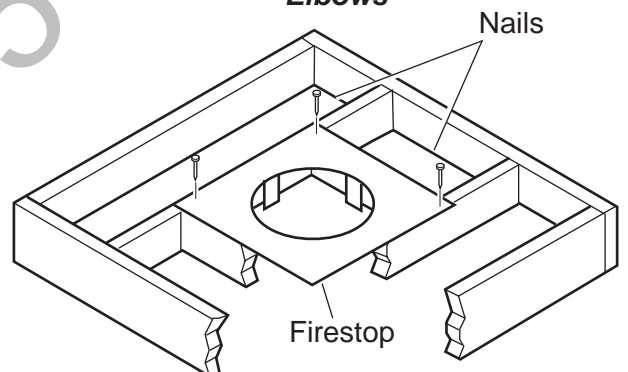
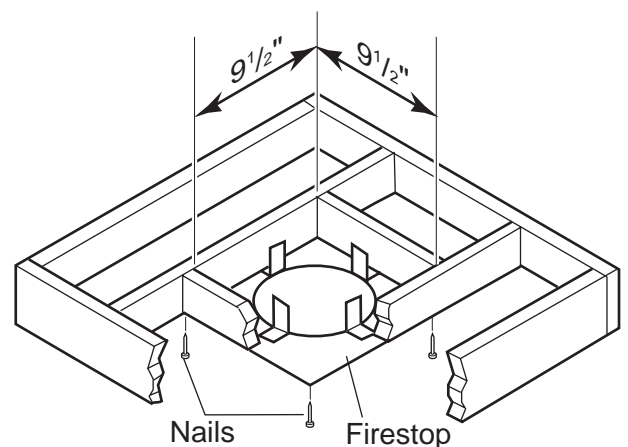

Figure 23 - If area above is a room, install firestop above framed hole as shown
Figure 24 - If area above is not a room, install firestop below framed hole as shown
1. Cut a $9\frac{1}{2}$ " (241mm) square hole in the ceiling using the locating hole as a center point. The opening should be framed to $9\frac{1}{2}$ "x $9\frac{1}{2}$ " (241mm x 241mm) inside dimensions as shown in Figure 24 using framing lumber the same size as the ceiling joist. If the area above the ceiling is an insulated ceiling or a room, nail firestop from the top side. This prevents loose insulation from falling into the required clearance space. See Figure 23. Otherwise, install firestop below the framed hole. The firestop should be installed with no less than three nails per side. See Figure 24.